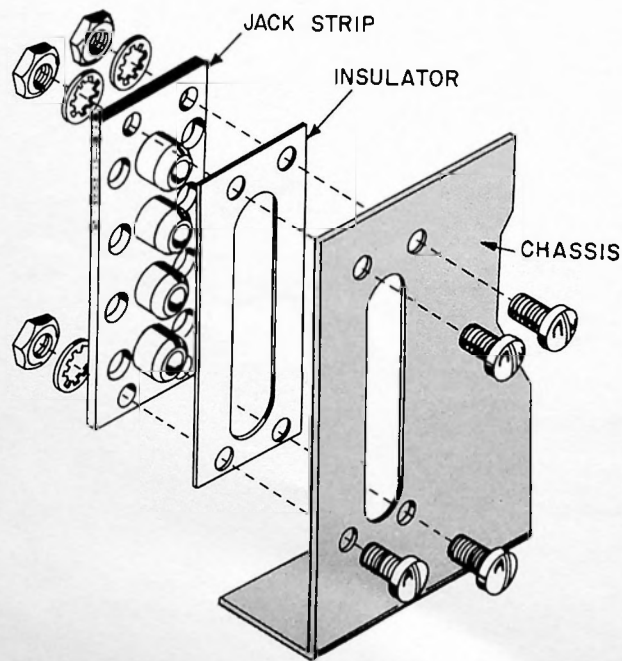

FIGURE 6. JACK STRIP MOUNTING
- TS-3, TS-4, and TS-5, three jack strips. Mount each with an insulator and four 4-40 x  $\frac{3}{8}$ " screws, lockwashers and nuts as shown in Figure 6. Mount TS-14, a 4-terminal strip with one of the mounting screws of TS-4.